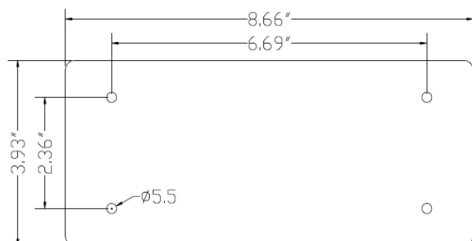

FIG.2
4. Mount the fixture by drilling through back of fixture securing it to the mounting surface using the appropriate mounting hardware supplied by others for the surface. Use template to locate mounting holes (see FIG.2).